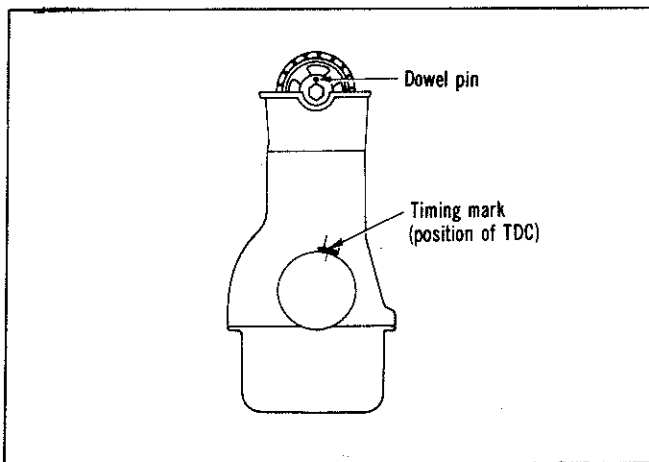
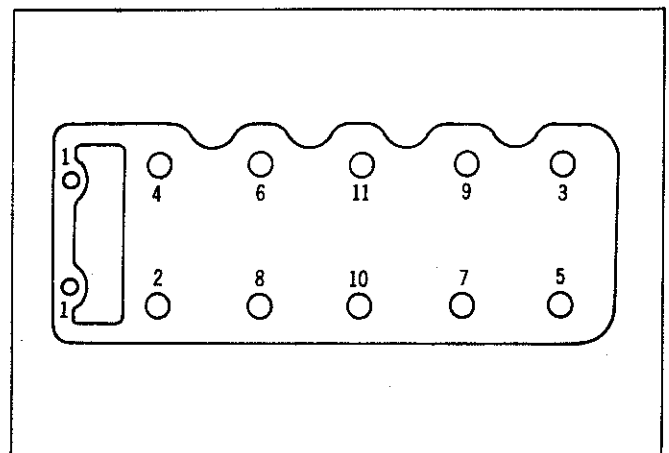

Fig. 4—Position TDC on No. 1 piston
Fig. 5—Cylinder head bolt removal sequence
(6) Remove distributor.
(7) If the cylinder head is to be disassembled, the inlet and exhaust manifolds can be removed for easier handling of the cylinder head.
(8) Remove the rocker arm cover.
(9) Ensure that No. 1 piston is at top dead centre on the compression stroke by aligning the crankshaft pulley timing mark on the TDC "T" mark of the timing plate. The camshaft dowel pin should be in the upper most position as shown in Fig. 4.
(11) Remove the camshaft sprocket bolt and distributor drive gear and remove the sprocket from the camshaft.
(12) Loosen the cylinder head bolts in two stages to prevent cylinder head warpage — use order shown in Fig. 5.